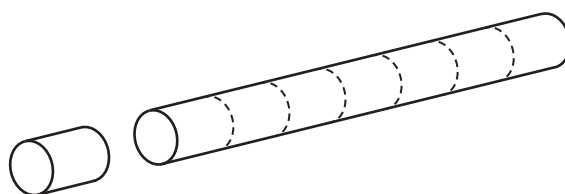

Fig. 1.1
Step 2 One of the potato sticks was cut into eight equal pieces as shown in Fig. 1.1.